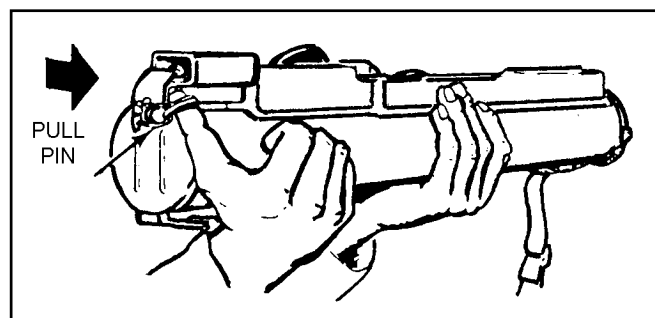

Figure 2-15. Removing the pull pin.
(1) Remove the pull pin and rotate the rear cover downward so the front cover and adjustable sling assembly can fall free (Figures 2-15 and 2-16, page 2-11). Do not discard the sling assembly until after you fire the rocket.